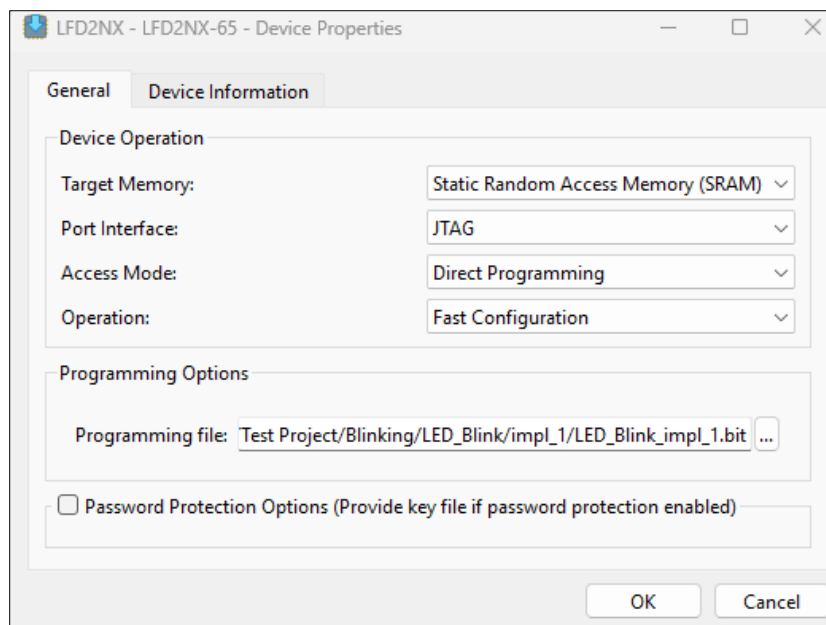

Figure 4.4. Radiant Programmer – Device Properties
5. The **Device Properties** dialog box opens, as shown in Figure 4.4. Select the following options: